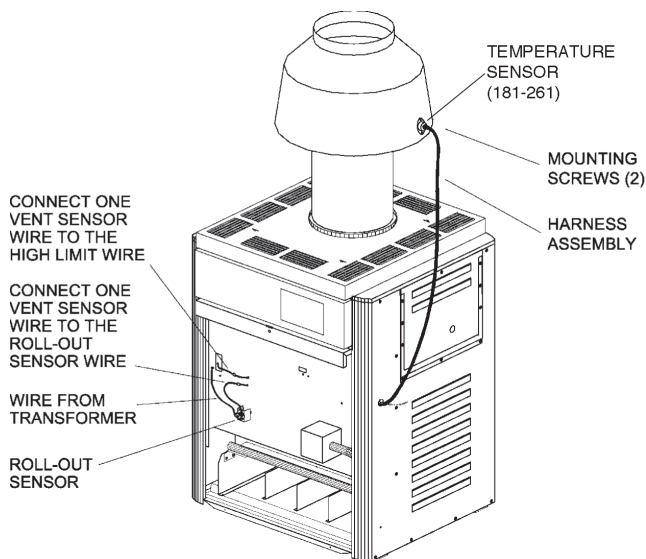

Figure 10. Boiler After Drafthood Installation for Models 0181-0401 and 0182-0400
4. Mount drafthood on top of boiler as shown in **Figure 10**. Drafthood should be positioned with the vent sensor located on the front right side as shown.